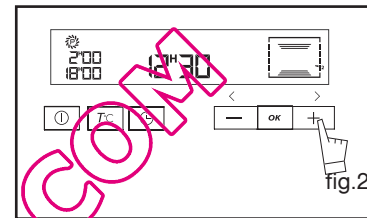

fig.2
- Press the + or - button to set the desired end time (fig.2).